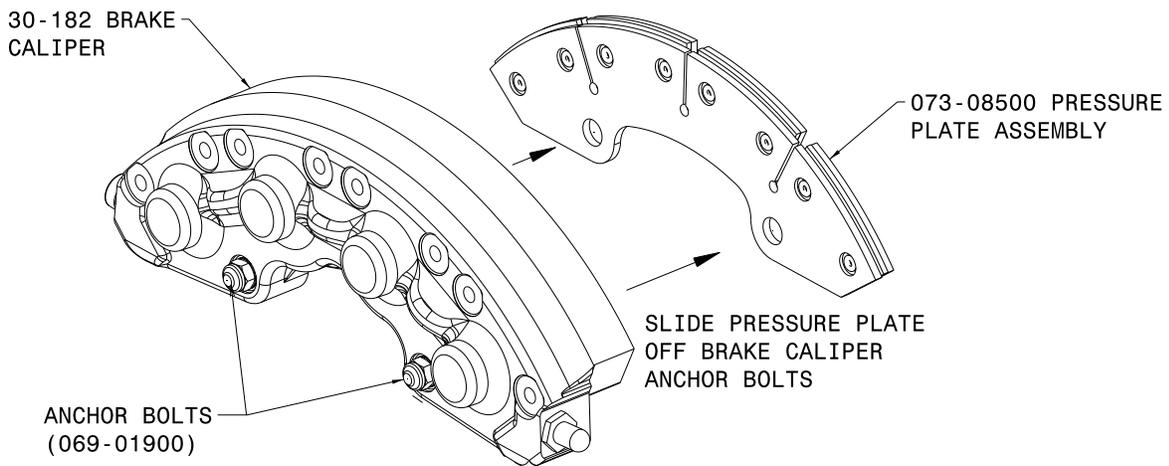

Figure 3 Remove the pressure plate assembly
- (2) Refer to Figure 3. Slide the brake caliper free from the torque plate and remove and retain the existing pressure plate assembly (073-08500) by sliding over the anchor bolts which are press fit into the brake housing.
- (3) Temporarily support and secure the brake so that it will not cause binding of the aircraft hydraulic line.